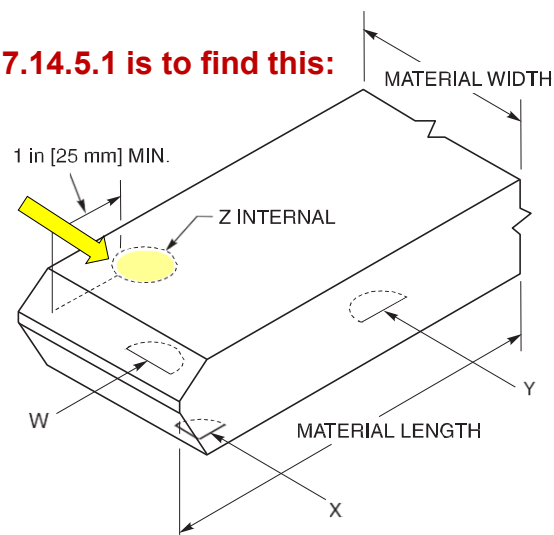

Figure 7.1—Edge Discontinuities in Cut Material
(1) Where discontinuities such as W, X, or Y in Figure 7.1 are observed prior to completing the joint, the size and shape of the discontinuity shall be determined by UT. ...